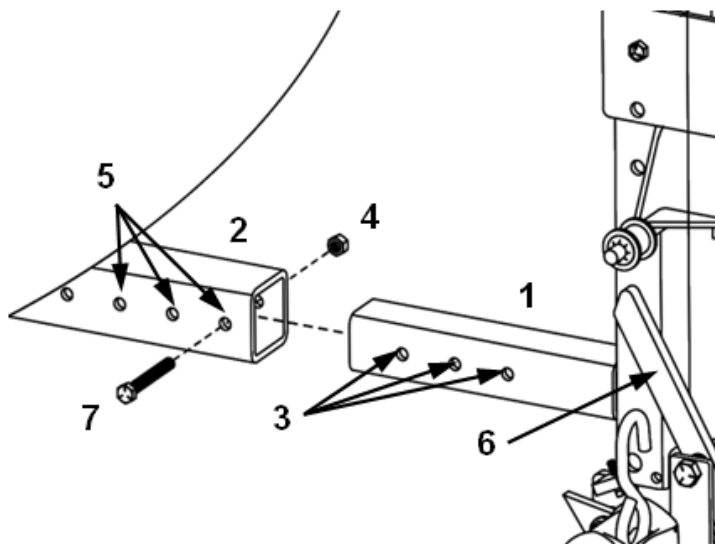

FIG 3. QUICK REFERENCE
2.2 Once the SWINGAWAY has been properly located in the receiver, insert the 1/2"-13 x 2-1/2" fully threaded bolt (FIG. 3, item 7) and turn bolt clockwise to thread into the SWINGAWAY.
2.3 Install locknut (FIG. 3, item 4) and (FIG. 4, item 8) onto bolt end and tighten to 60 ft. lbs.